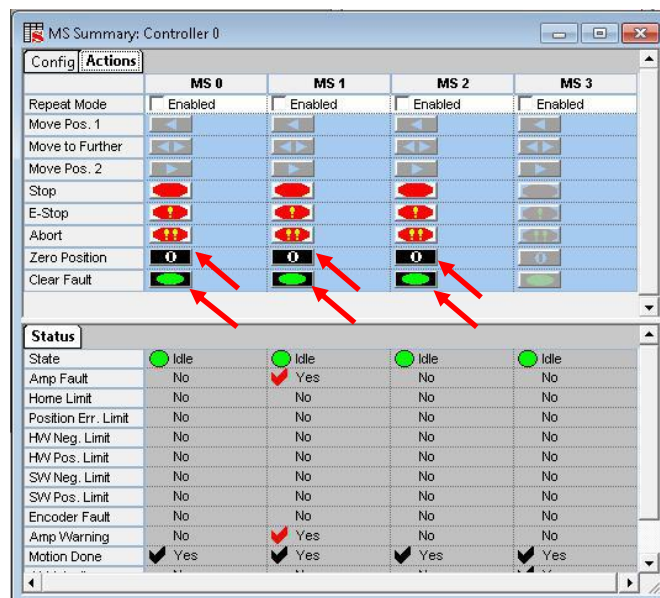
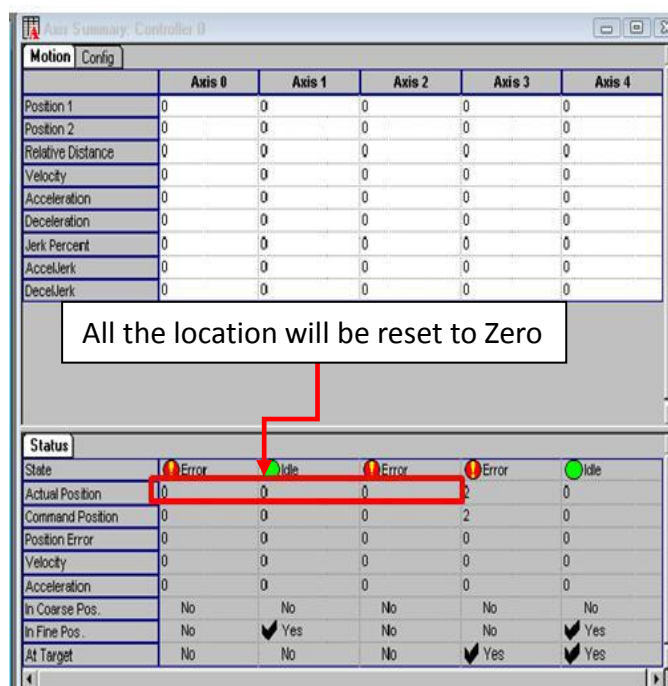

Figure 9 MS Summary (Motion Supervisor Summary)
Figure 10 Axis Summary (Actual position)
9. Gently rotate the coupling for the Y-Axis stage as shown in the Figure 9 until the Actual Position and Command Position in Figure 10 become 5990.